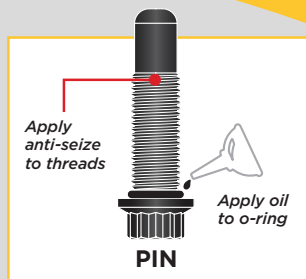

Fig.1
- 1 Inspect each pin to make sure it has an O-ring and that the threads are in good condition. Apply a light amount of anti-seize to the threads of each pin. Apply a small amount of oil to the O-ring of each pin. [Figure 1]